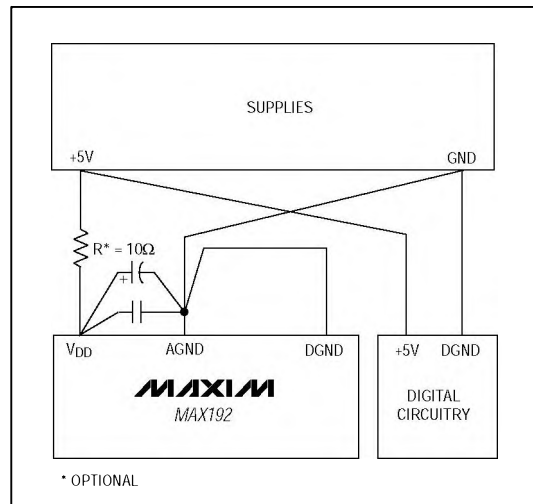

Figure 18. Power-Supply Grounding Connection
Figure 18 shows the recommended system ground connections. A single-point analog ground ("star" ground point) should be established at AGND, separate from the logic ground. All other analog grounds and DGND should be connected to this ground. No other digital system ground should be connected to this single-point analog ground. The ground return to the power supply for this ground should be low impedance and as short as possible for noise-free operation.
0.1µF and 4.7µF bypass capacitors close to the MAX192. Minimize capacitor lead lengths for best supply-noise rejection. If the +5V power supply is very noisy, a 10Ω resistor can be connected as a lowpass filter, as shown in Figure 18.